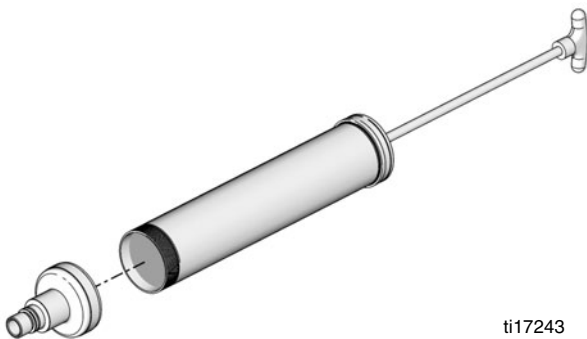

FIG. 2
3. Reinstall grease gun cover over end of gun tube (FIG. 2).